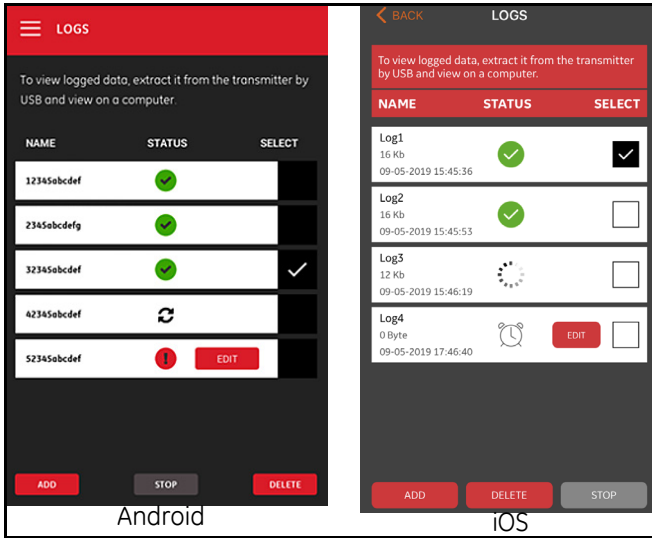

Figure 115: LOGS Main Menu
In the LOGS main menu (see *Figure 115* below), all existing logs and their current status are listed. Each listed log may be edited, stopped or deleted, depending on their current status.
1. On the **LOGS** main menu (see *Figure 115 on page 110*), click in the **SELECT** column to the right of the log you wish to delete.
1. On the **LOGS** main menu (see *Figure 115 on page 110*), click in the **SELECT** column to the right of the log you wish to stop.
1. On the **LOGS** main menu (see *Figure 115 on page 110*), click in the **SELECT** column to the right of the log you wish to edit.